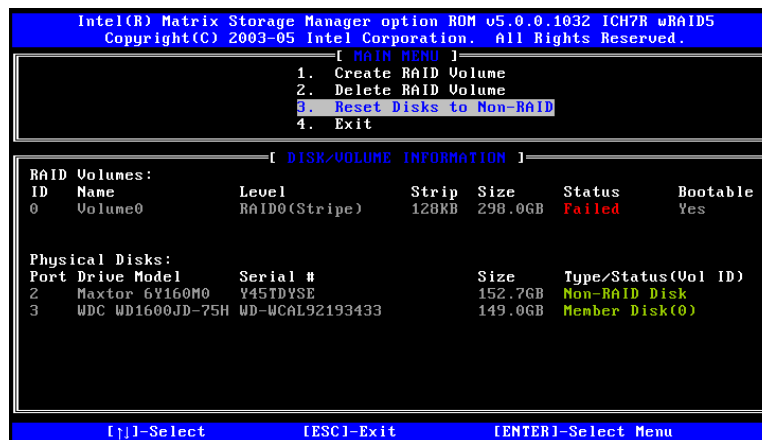

Figure E-15: Disk Drive and RAID Volume Status
Step 4: **Disk Drive and RAID Volume Status.** After the disk drives have been reset, the **Matrix Storage Manager Main** menu is shown indicating the status of the RAID volumes and disk drives. See **Figure E-15**.